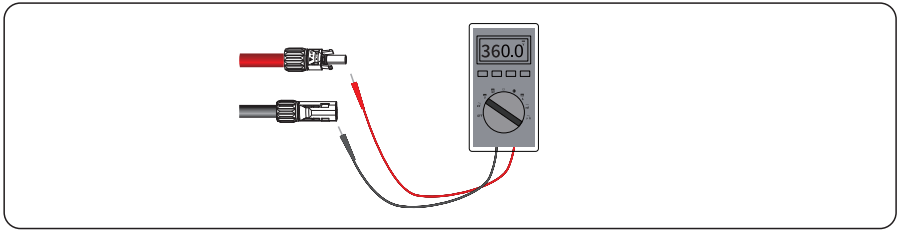

Figure 5.10 Checking the voltage of PV input
**Step 4** Measure the voltage of PV input using a multimeter. Ensure that the polarities of the PV input power cables are correct, as shown in Figure 5.10.